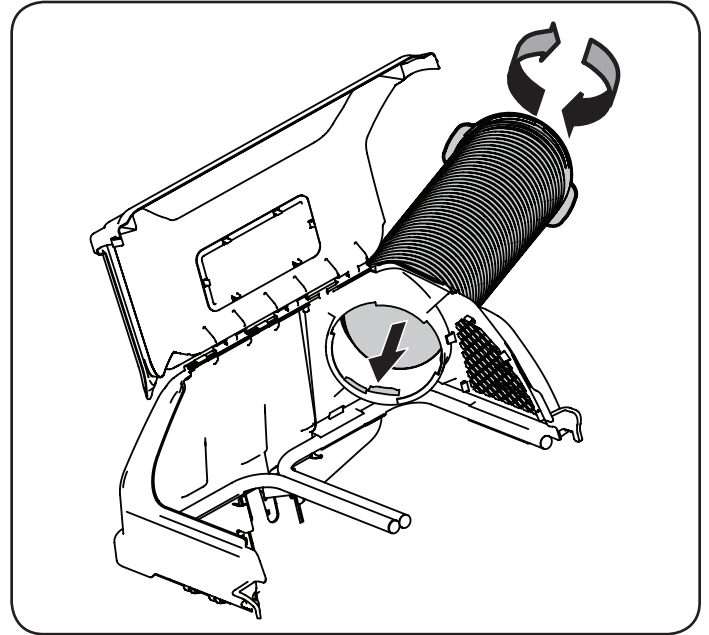

Figure 23
1. Thread the upper end of the chute tube securely into the upper chute support. There are two tabs on the lower inside part of the upper chute support to allow for secure threading. See Figure 23.